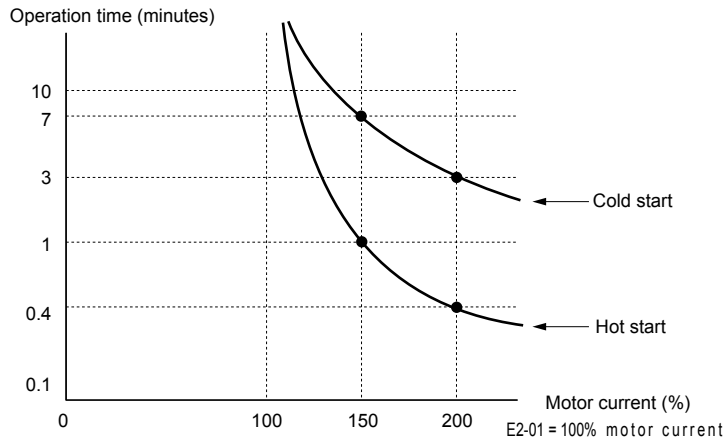

Figure 5.77 Motor Protection Operation Time
- Figure 5.77** shows an example of the electrothermal protection operation time using a general-purpose motor operating at 60 Hz with L1-02 set to one minute.